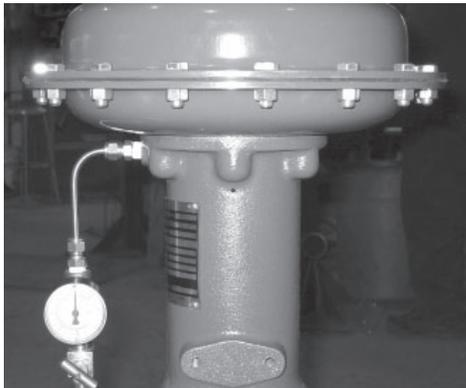

Figure 3 Needle Valve with Gauge setup
- 4 If the actuator is a spring and diaphragm actuator, determine if that actuator is fail open or fail closed. Fail closed actuators will need to be energized to remove downward force from the stem connector. Connect a supply line to the inlet port of the actuator, be sure not to exceed the maximum casing pressure. Refer to Figure 3 for recommended needle valve and gauge setup.